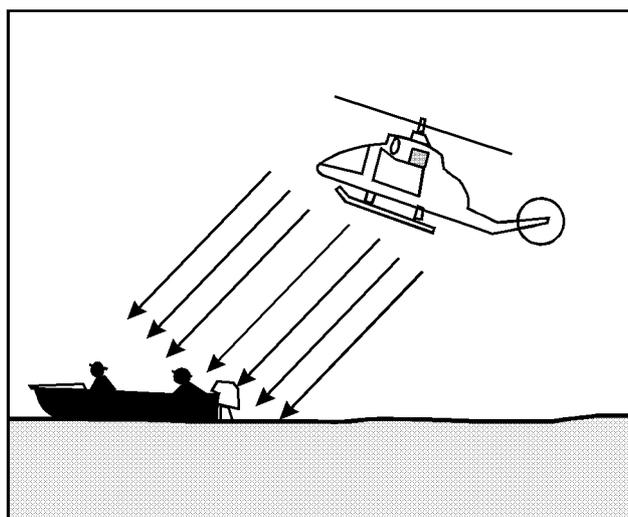

Figure 9:10—Down-Draught Effect
- 9.55** This results in the relative positions of the helicopter and the FRB remaining constant and hinders a person or cargo being lowered into or retrieved from the FRB. (See Figure 9:10).